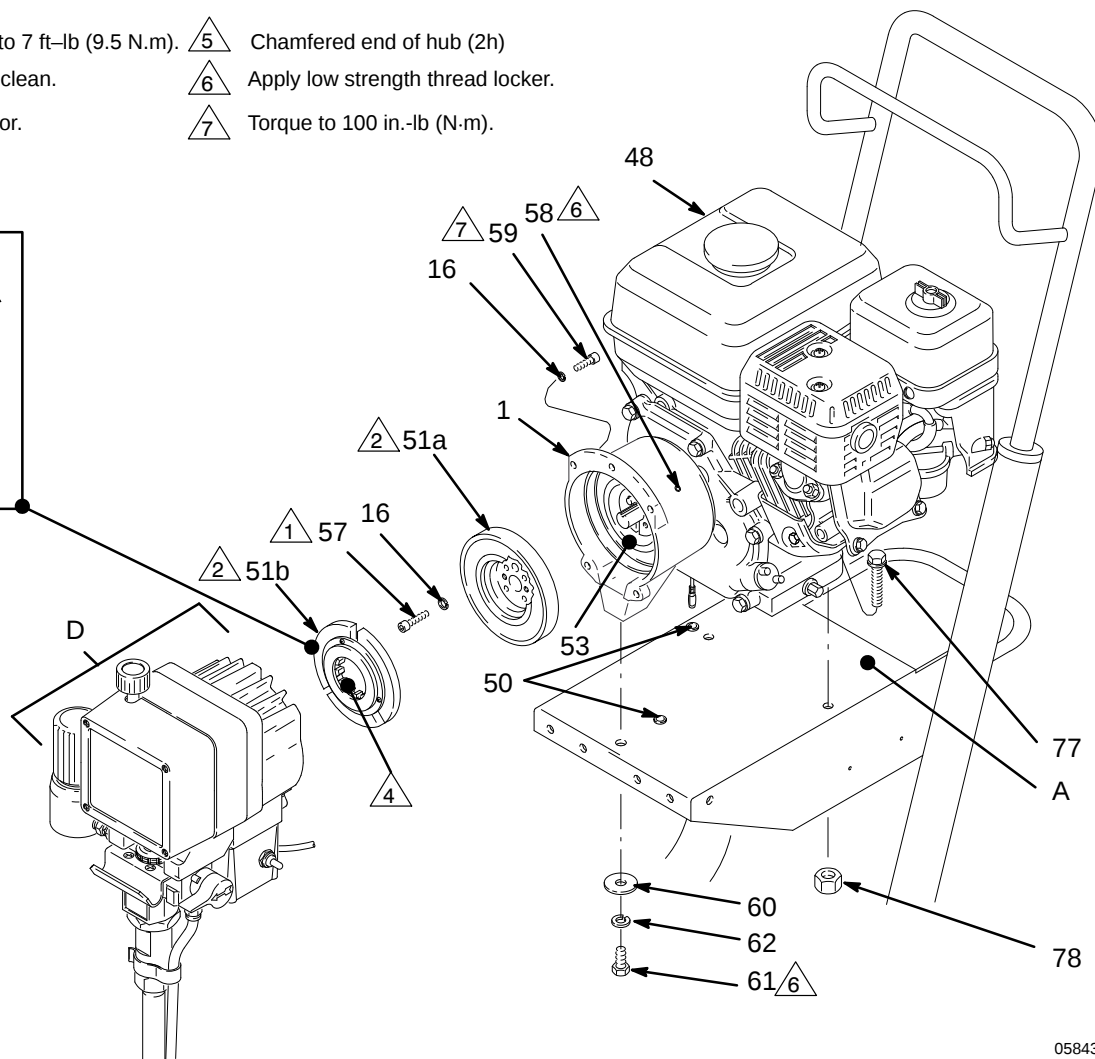

Fig. 3
1. Clean the face of the **armature (52b)**. With the flat side of the armature facing the rotor (51a), slide the armature onto the hub (2h) in the drive/pinion assembly (D) just until the chamfered end of the hub (2h) protrudes through the armature. See Detail B, Fig. 3. There will be significant resistance. Attach the cardboard spacer, supplied with the clutch kit, to the face of the armature. Engage the tabs on the spacer with the slots in the armature or bend tabs over outside diameter of armature.
2. Assemble the **drive assembly (D)** to the clutch housing (1), using the capscrews (59) and lock-washers (16). See Fig. 3.